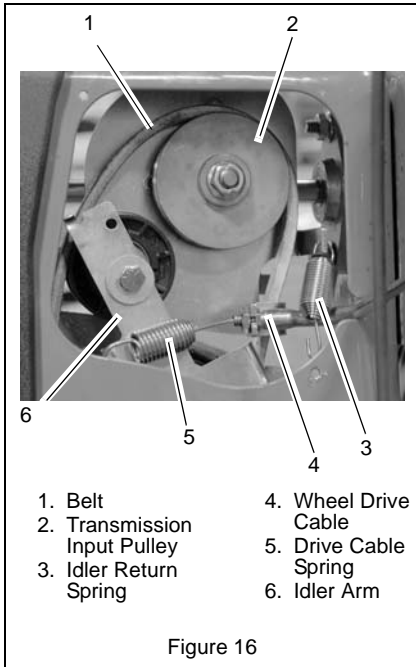
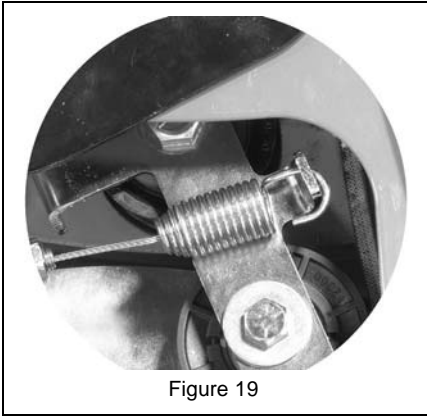

Figure 16
Figure 19
3. Disconnect idler return spring from idler arm. See Figure 16.
2. Connect the wheel drive cable spring to the idler arm as shown in Figure 19, and then connect the wheel drive cable to the transmission mount. See Figure 16.